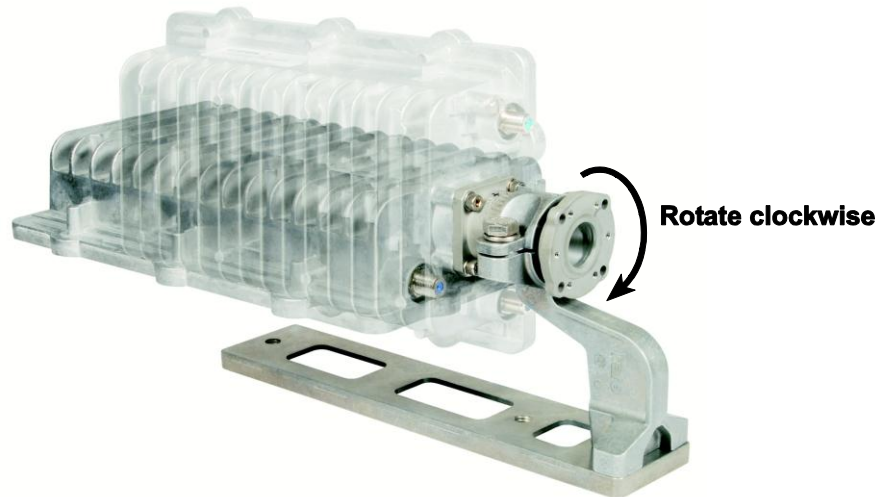

Figure 7: Rotating the radio to horizontal polarization
2. Rotate the Universal Radio so that it is horizontal to the mounting bracket as shown in Figure 7.